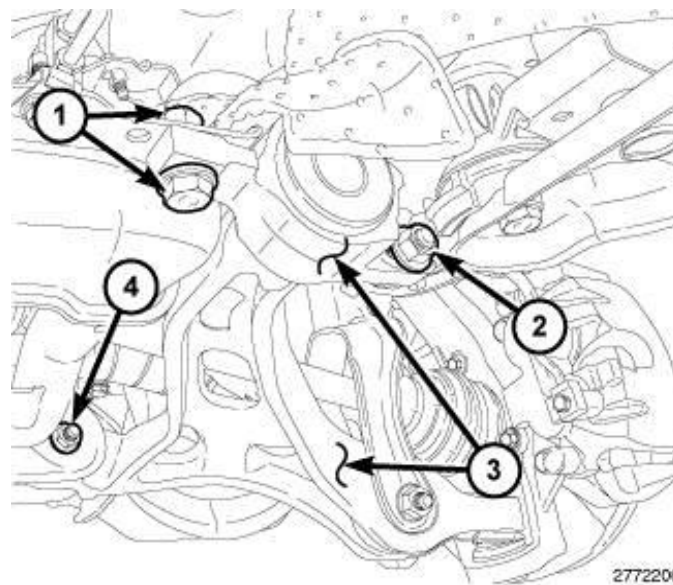

Fig. 7
16. Remove the lower control arm pivot nut and bolt from the lower control arm (3) (Fig. 7).
17. Remove the lower control arm rear pivot vertical bolt and nut (1) and the lower control arm rear pivot horizontal bolt and nut (2) from lower control arm (Fig. 7).